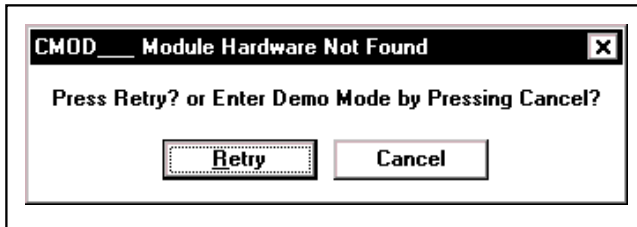

Figure 10. EV Kit Software Warning Message
**Problem 1:** CMODUSB module hardware not found (see Figure 10).